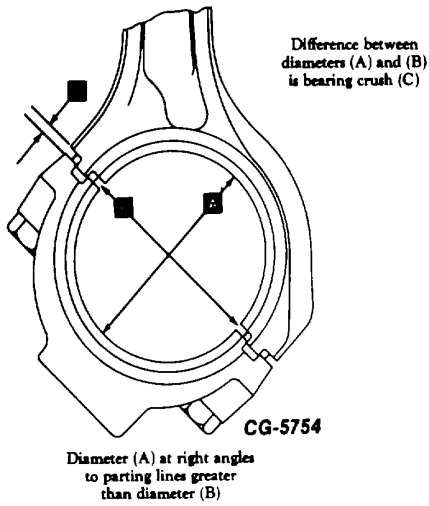

Figure 9. - Bearing Crush
2. Bearing shells must fit tightly in the rod or case bore. Bearing manufacturers accomplish this by making the diameter at right angles to the parting line (A, Fig. 9) slightly larger than the actual diameter of the bore (B) into which they are assembled. The increased diameter (C) is referred to as "bearing crush".